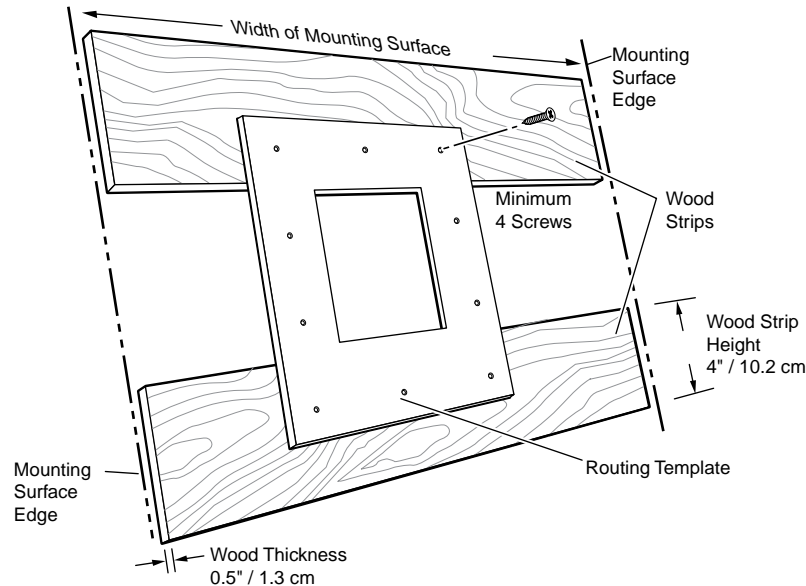

Figure 3. Prepared Routing Template
1. Cut 1/2-inch x 4-inch strips of soft, finished lumber long enough to span the distance between the desired installation location on the table or other mounting surface and the edges of the table (see figure 3).